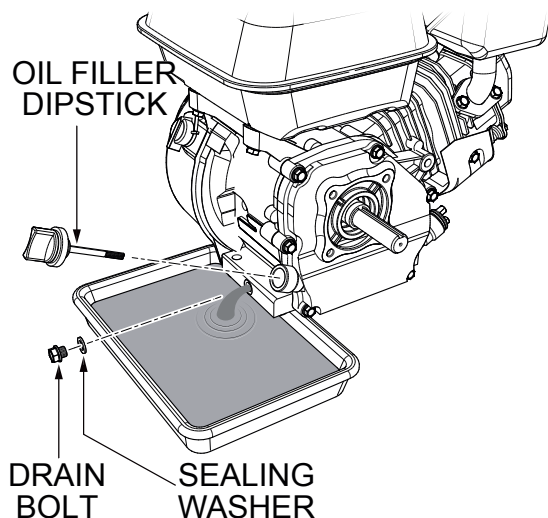

Figure 28. Draining Engine Oil
1. Drain the engine oil when the oil is warm as shown in (Figure 28).